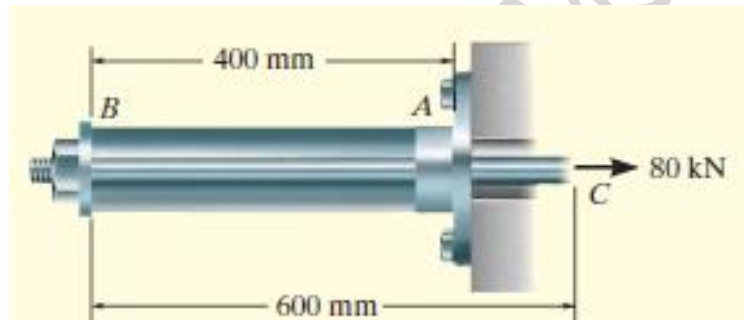

Fig. 2b
- b) The assembly shown in Fig. 2b consists of an aluminium tube AB having a cross-sectional area of 400 mm^2 . A steel rod having a diameter of 10 mm is attached to a rigid collar and passes through the tube. If a tensile load of 80 kN is applied to the rod, determine the displacement of the end C of the rod. Take $E_{\text{st}} = 200 \text{ GPa}$, $E_{\text{al}} = 70 \text{ GPa}$